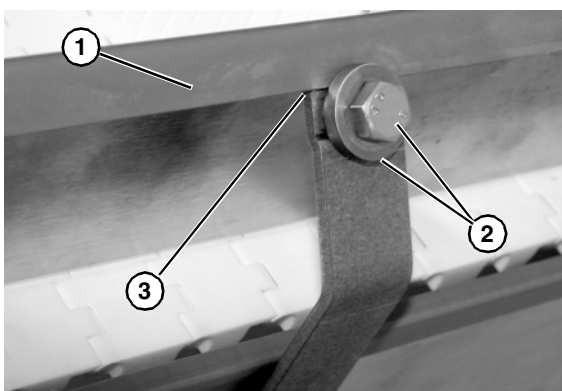

Figure 40
3. Attach guide (**Figure 40, item 1**) to the mounting brackets with hex bolts and spacers (**Figure 40, item 2**). Hand tighten only at this time.
4. Ensure that nose of bracket slips under the lip of guide (**Figure 40, item 3**).